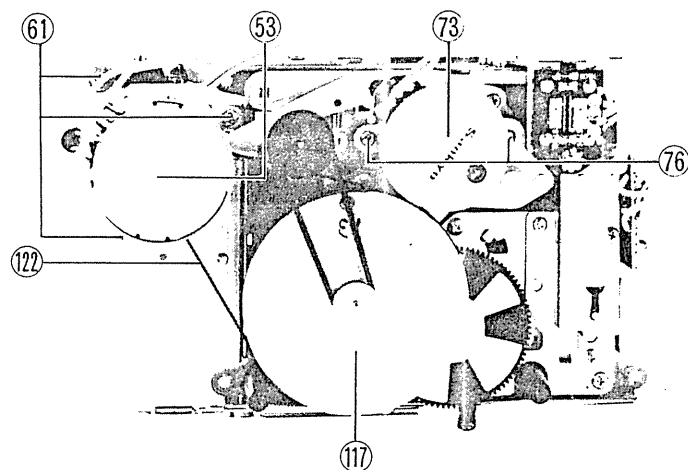

Fig. 13
#### H. Capstan motor (53) (Fig. 13)
1. Remove the capstan belt (122).
2. Remove 3 screws (61) with motor bracket.
#### I. Reel motor (73) (Fig. 13)
#### J. Flywheel ass'y (117) (Fig. 13)